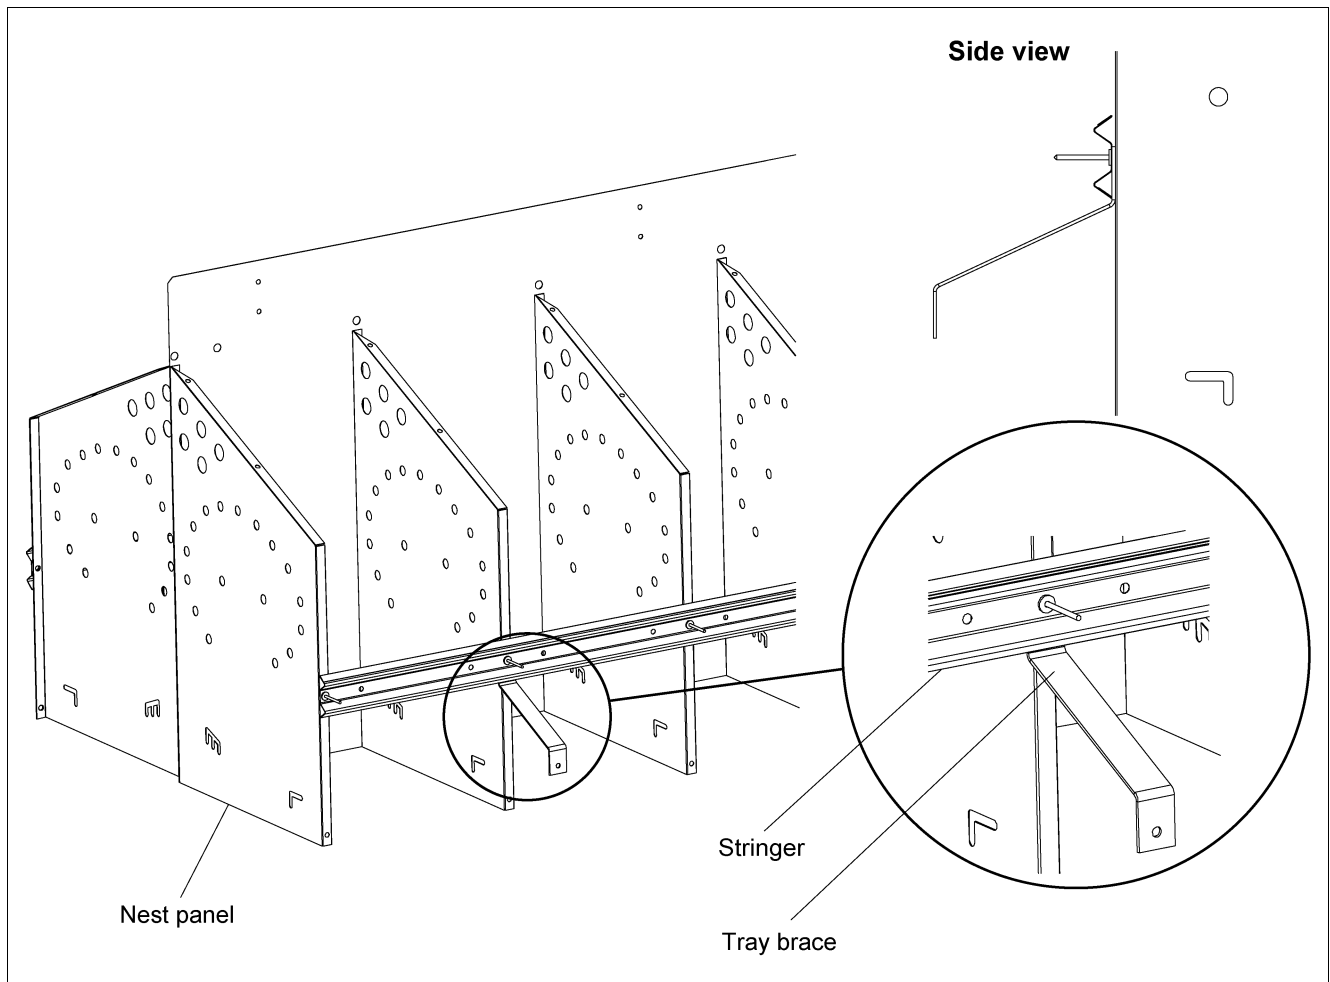

Figure 4F Stringer/Tray Brace Assembly
- Secure the flat edge of the stringer to each nest panel using eleven (11) **S-7222 (3/16" rivet diameter, 5/16" long aluminium rivets) aluminium rivets** (nine (9) for FRN16). Insert the long end of three (3) tray braces between the stringer and the **second, sixth and tenth nest panels for FRN20 (second, fifth and eighth for FRN16)** prior to securing with the rivet. (See Figure 4F.) Complete this step on both sides of the nest.
10. Place the egg tray cover/hinge clamp assembly created in Step 9 on top of the tray braces previously installed in Step 3, Figure 4F on Page 18. Insert a **S-7060 (3/16" rivet diameter, 7/16" long aluminium rivets) steel rivet** through the hinge clamp, the egg tray front plate (already in place) and finally through the tray brace (also already in place). Secure after making certain the rivet extends through each surface fully. Repeat this process for the remaining five (5) clips on both sides of the nest.